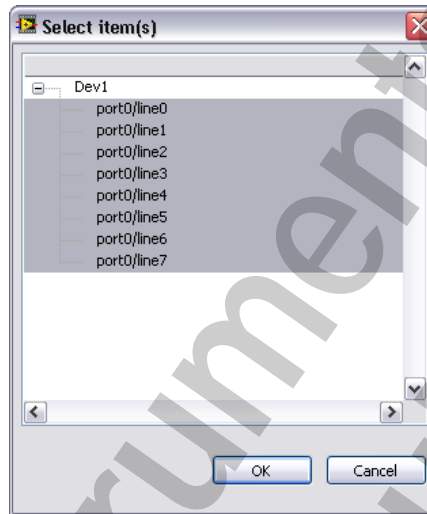

Figure 5-5. DAQmx Digital Channel Browse Dialog
- ☐ Hold the <Shift> key and select lines 0 through 7, as shown in Figure 5-5.